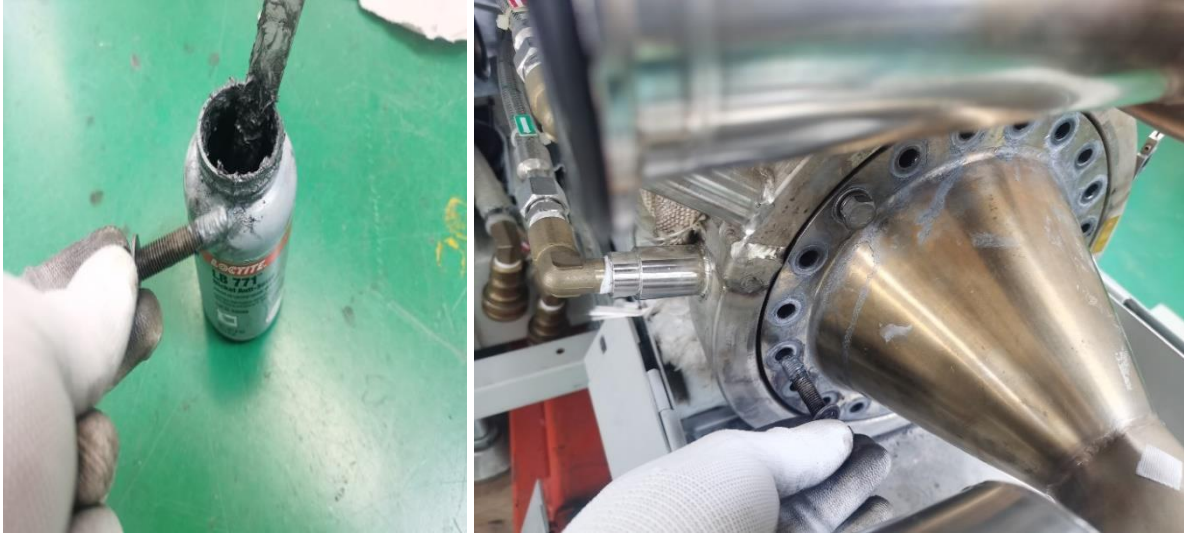

Fig 20
20. The screws should be applied with the high temperature anti-seize oil (See Fig 20)